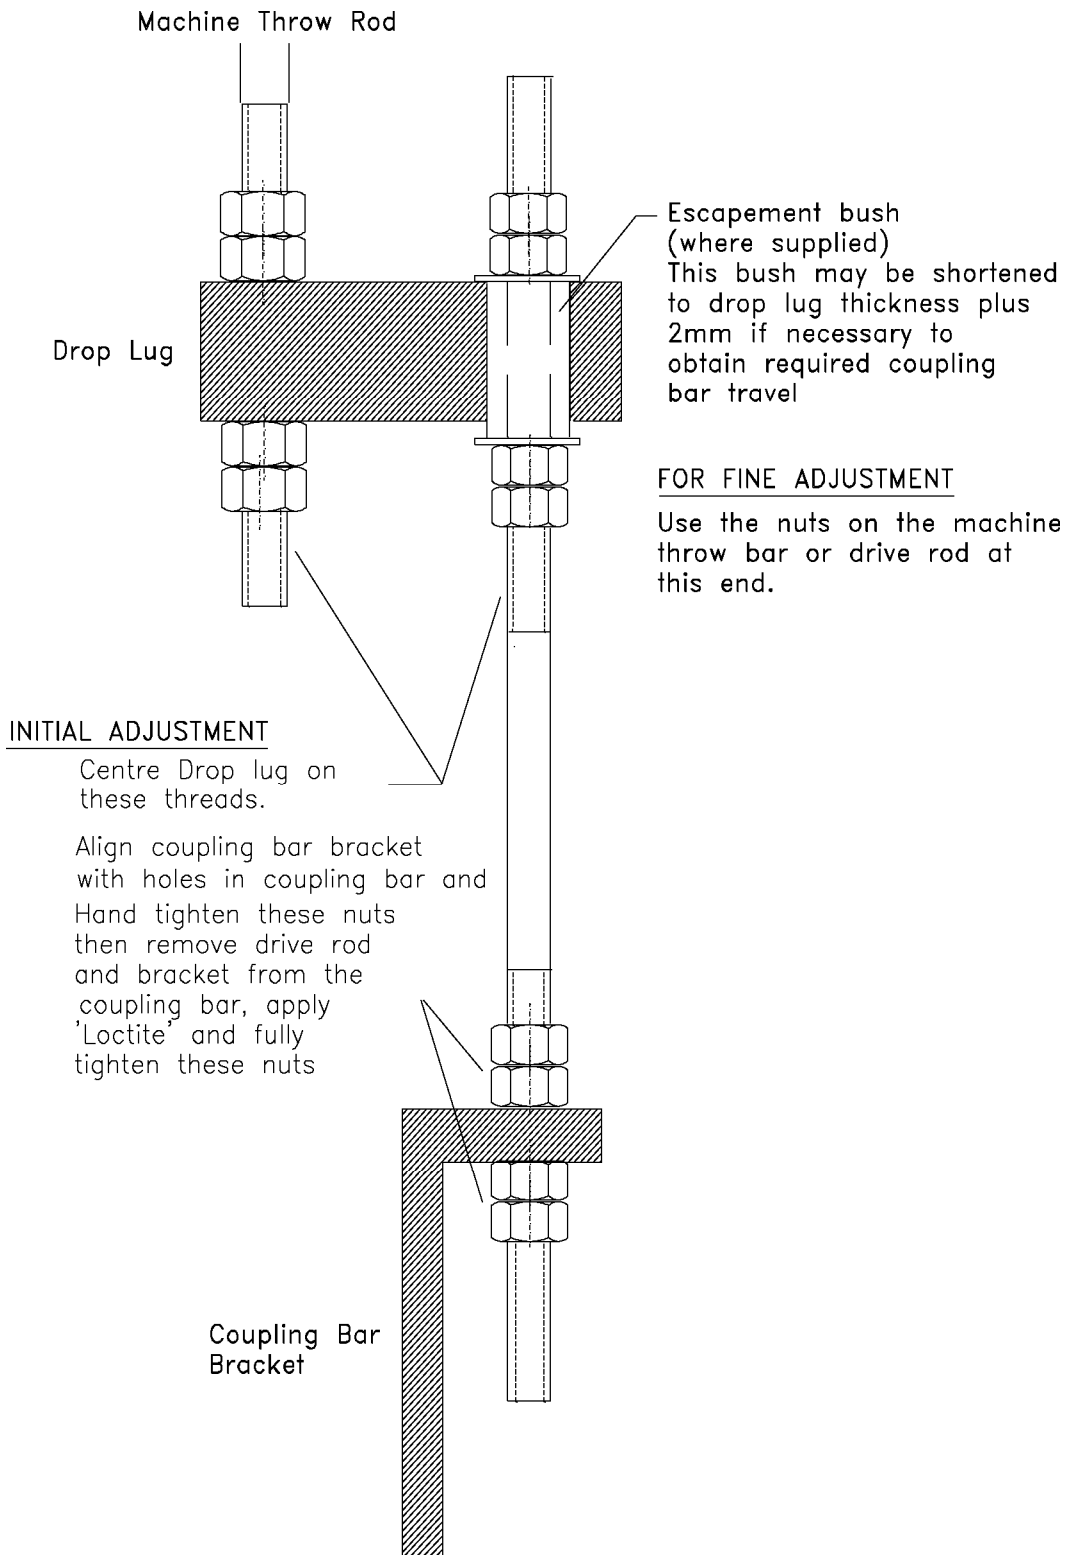

Figure 1.12 – Drive rod adjustment
8. Position the drop lug approximately in the centre of the thread on the machine throw rod. Position the drive rod so that the drop lug is approximately in the centre of the thread on that end of the rod. Refer to figure 1.12